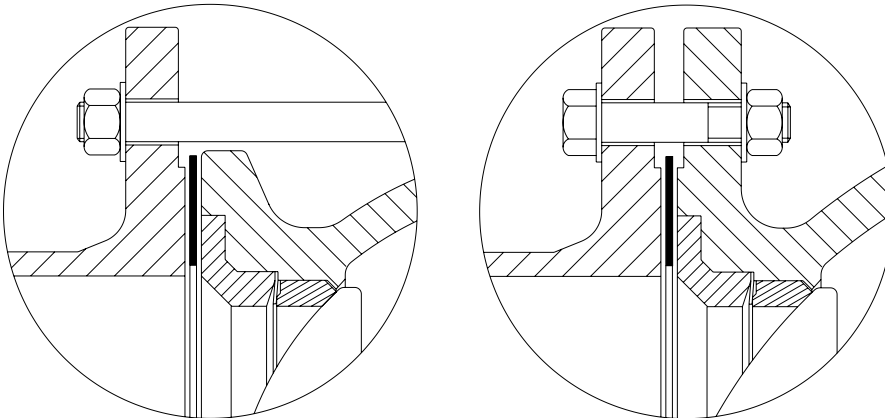

Fig.5-2 Gasket
- Ensure that the valve and the gaskets are correctly centred and gaskets of the correct quality are used. The sealing function of the valve depends on the gasket on the inlet side, which transmits the pressure from the connecting flange to the cover plate (→ Fig.5-2).